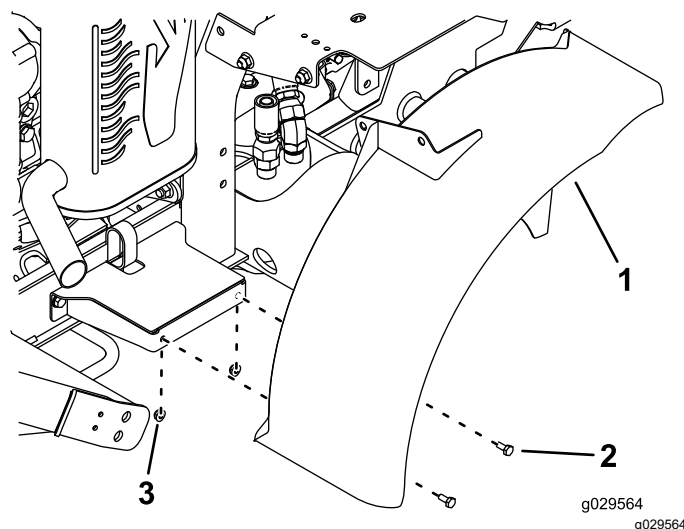

Figure 22
14. Loosely mount the side of the right fender to the fender mount with 2 bolts (1/4 x 5/8 inch) and 2 nuts (1/4 inch) as shown in Figure 22.
15. Loosely mount the bracket, on the top of the fender, to the fuel-tank bracket with 2 bolts (3/8 x 3/4 inch) and 2 nuts (3/8 inch) as shown in Figure 22.